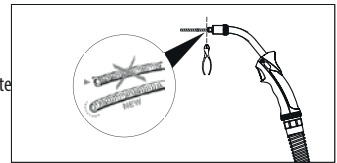

Figure 11: Cutting off the Liner Stick Out and Reassembling the Torch
- Reassemble the adaptor, the contact tip and the nozzle respectively with help of an appropriate hand tool (Figure 11).